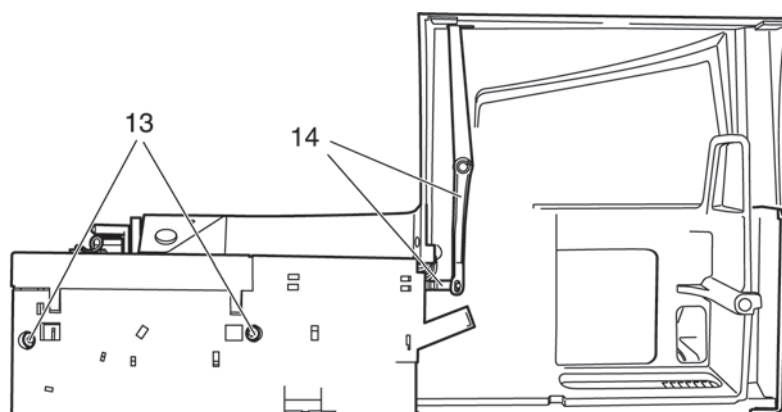

Fig. 36b
- Fit and tighten both screws 13 of the free-arm cover (fig. 36b).